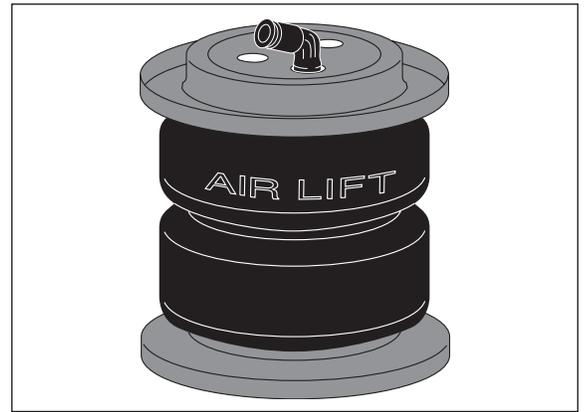

Figure 4
1. Place a roll plate (D) on the top and bottom of the air spring (A) so that the air spring is seated within the roll plates (Figure 4).
2. Install the air fitting (E) finger tight plus 1 1/2 turns (Figure 4). Use a 7/16" open end wrench, being careful to tighten on the metal hex nut only. *Do not overtighten.* This fitting is precoated with sealant.